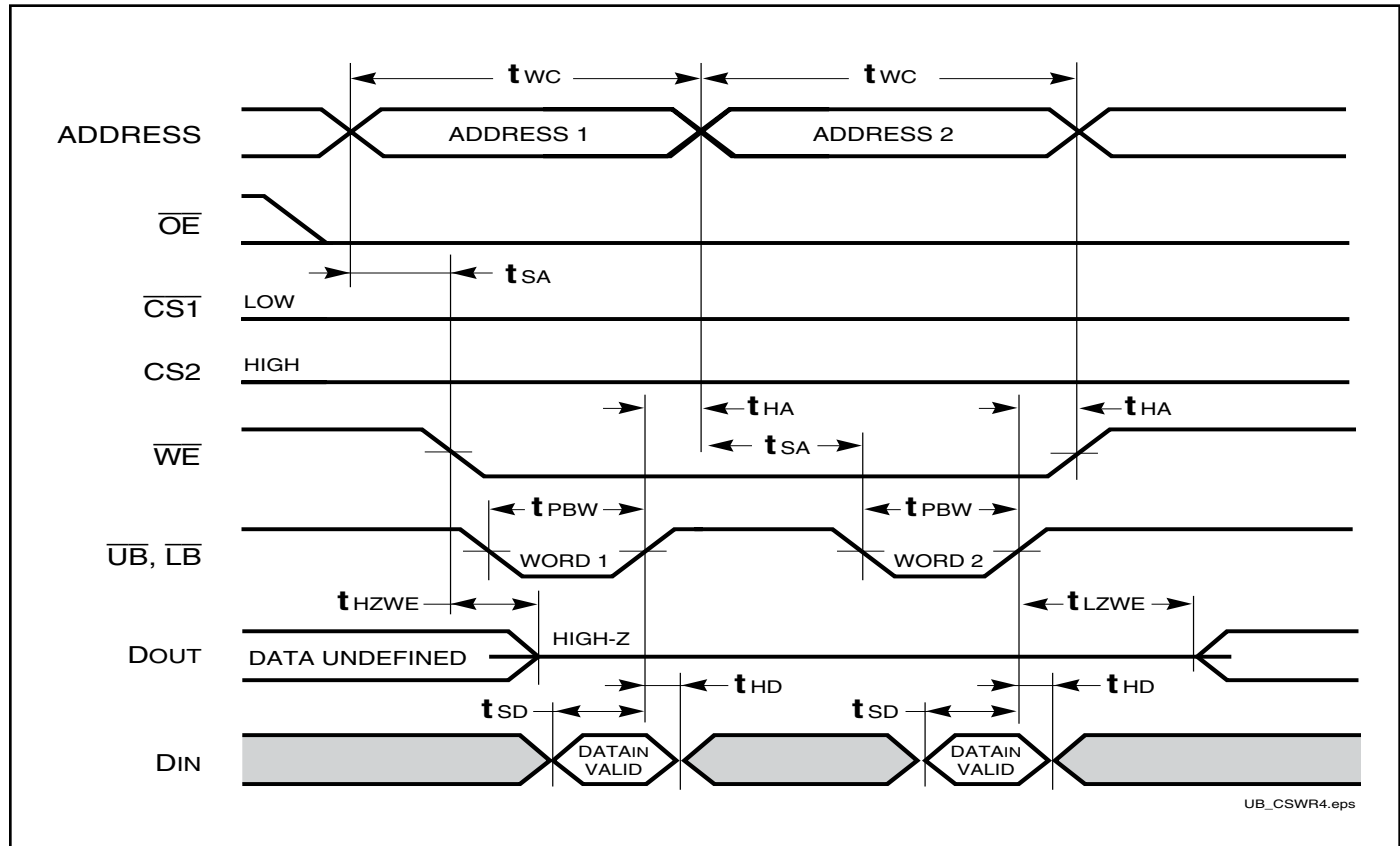
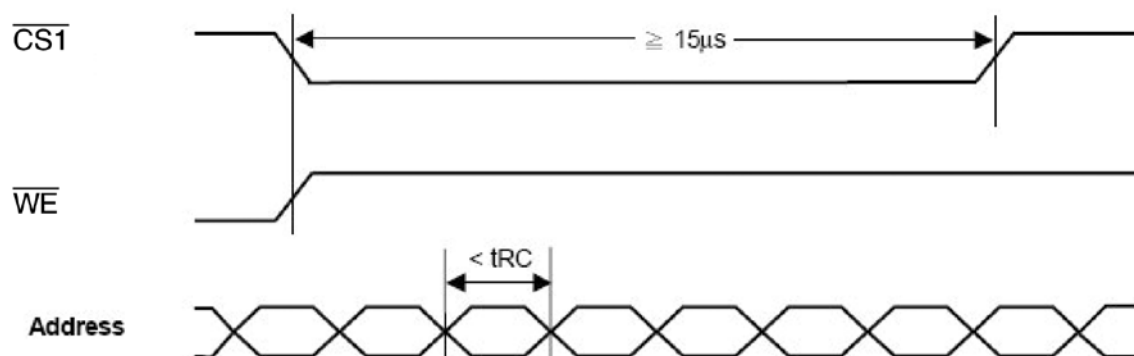

Figure 1: Avoidable Timing
Figure 2:
- Test conditions assume signal transition times of 5 ns or less, timing reference levels of 0.9V/1.5V, input pulse levels of 0.4 to VDD-0.2V/0.4V to VDD-0.3V and output loading specified in Figure 1.
- Tested with the load in Figure 2. Transition is measured  $\pm 100$  mV from steady-state voltage. Not 100% tested.
Please avoid address change for less than  $t_{RC}$  during the cycle time longer than  $15\mu s$  (Figure 1). Figure 2 & 3 provide work around solution for this issue.